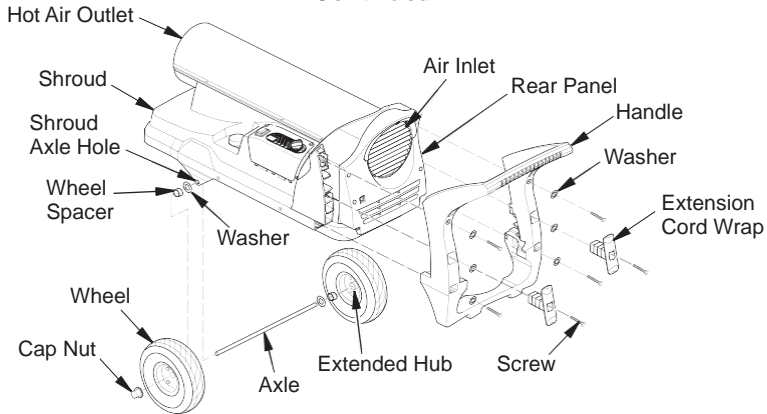

Figure 3 - Wheel and Handle Assembly
1. Slide axle through holes in shroud. Install washers, wheel spacers and wheels on axle as shown in Figure 3, page 5.
IMPORTANT: When installing wheels, point extended hub of wheels toward shroud (see Figure 3, page 5).